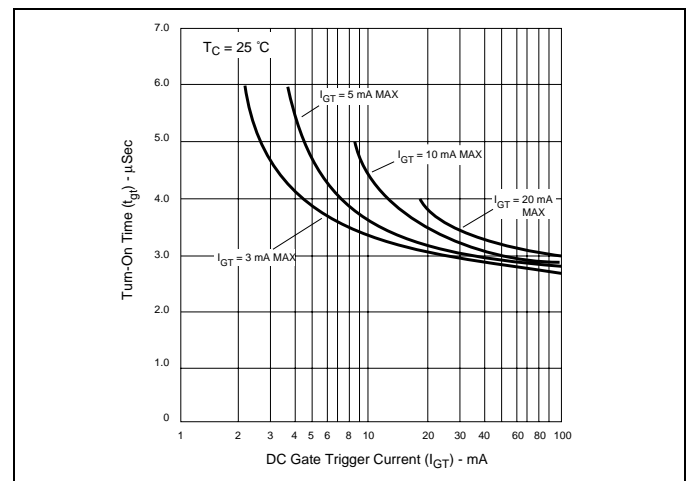

Figure E1.8 Turn-on Time versus Gate Trigger Current (Typical)
- (9) See Figure E1.8 for t_{gt} versus I_{GT} .